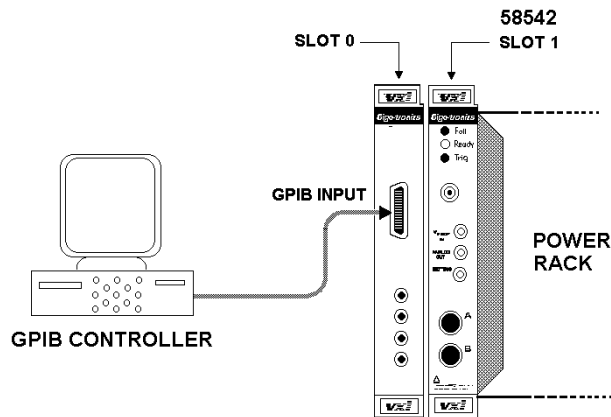

Figure 4-2. GPIB Port Test Setup
2. Connect the GPIB controller to the GPIB port of the SLOT 0 plug-in next to the power meter (see Figure 4-2).